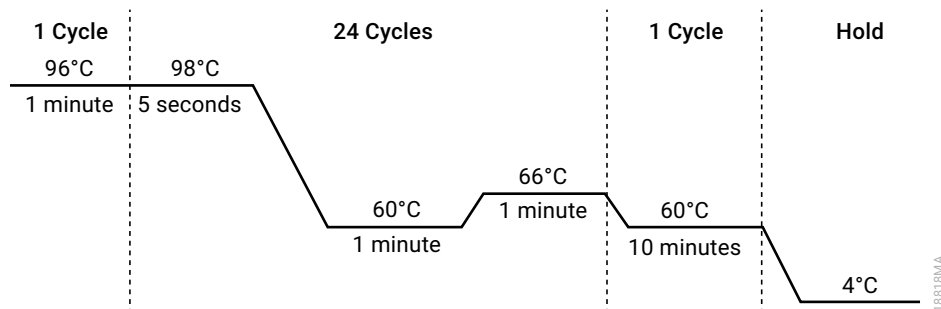

Figure 3. Thermal cycling protocol for the ProFlex® PCR System.
2. Select and run the recommended protocol provided below and in Figure 3. The total cycling time is approximately 75 minutes.